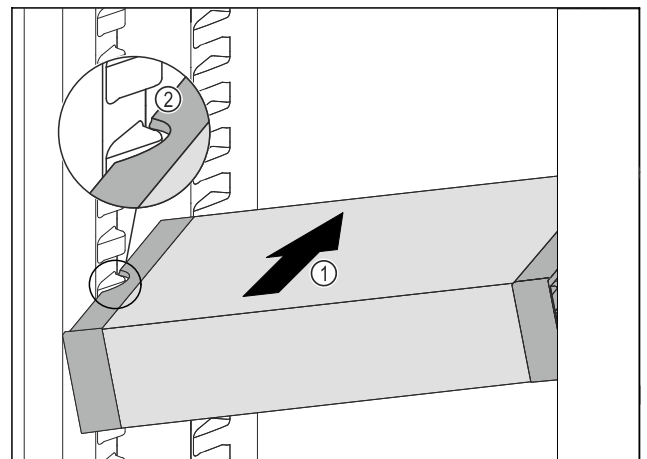

Fig. 151
- ▶ Insert the VarioSafe into the fridge section at an angle Fig. 151 (1) until the recesses in the side Fig. 151 (2) of the VarioSafe are at the level of the support rib in the fridge section.